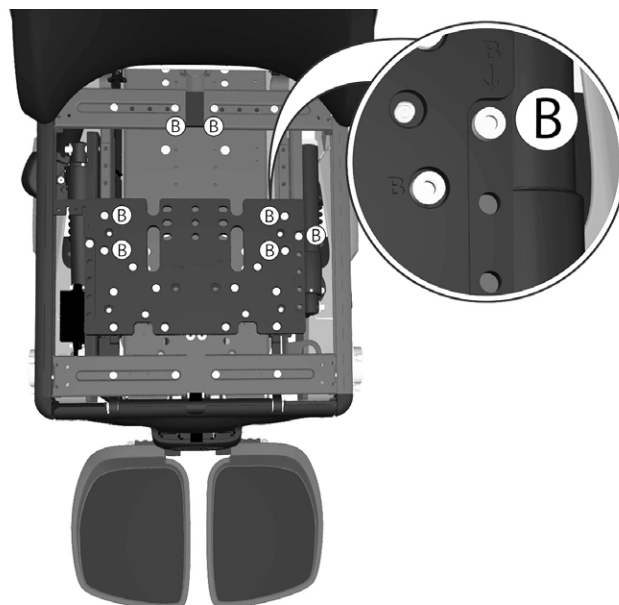

Figure 78. The position of the rear section of the Seat frame (Back rest Position) is fixed by five screws marked with the letter B.
7. Remove the seven screws marked (B) securing the Seat frames rear section, see fig. 78.